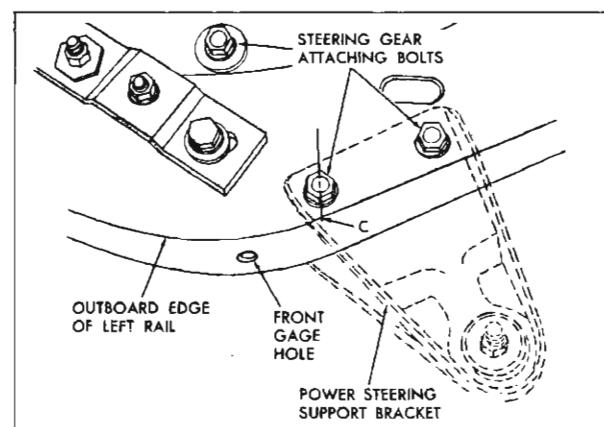

Fig. 11-3 Vertical Reference Point ("C")
- c. Outboard lower edge of motor compartment left side rail directly below front lower attaching bolt hole for the steering gear assembly Fig. 11-3.